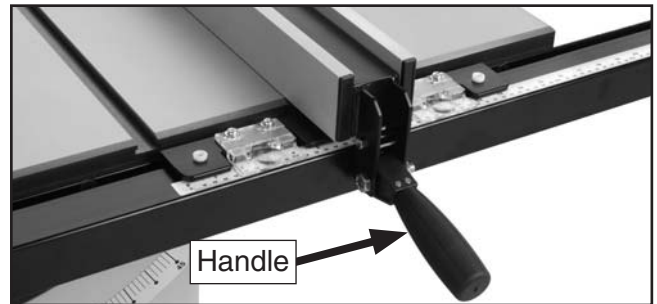

Figure 20. Fence lock handle installed on fence.
17. Install the fence lock handle (**Figure 20**) into the fence and place the fence on the rails, on the right-hand side of the blade.